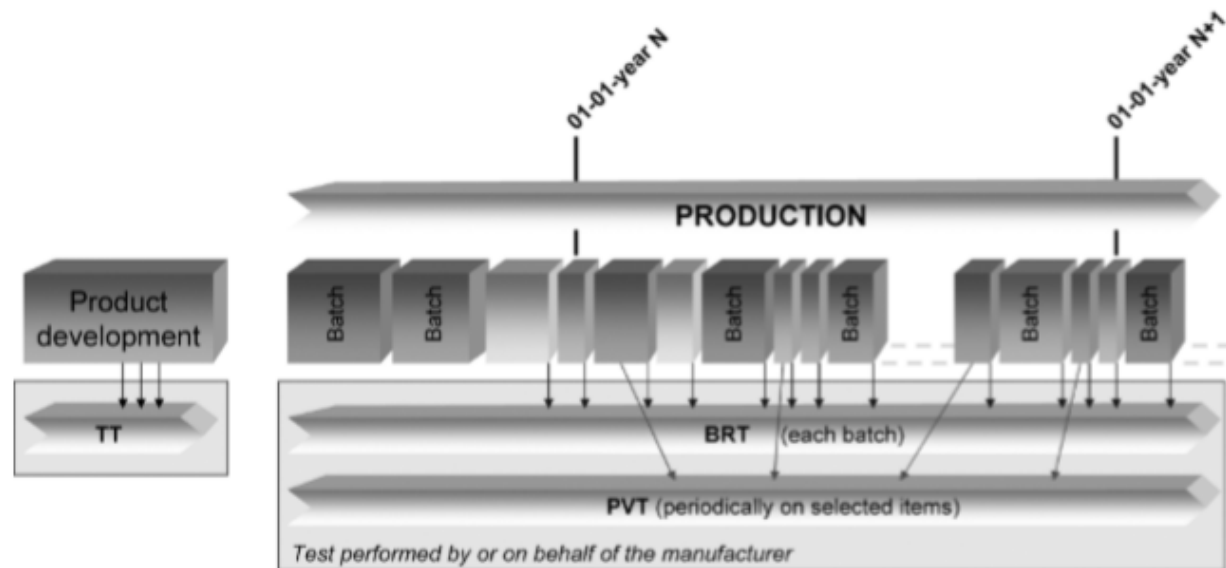

Figure 1 — Typical scheme for the assessment of conformity by a manufacturer
Figure 1 and Figure 2 are intended to provide general information on the concept of testing and organization of those tests used for the purpose of the assessment of conformity. For each type of test, i.e. type testing (TT), batch release test (BRT), process verification test (PVT), and audit test (AT), this part of EN 12201 details the applicable characteristics to be assessed as well as the frequency and sampling of testing.
A typical scheme for the assessment of conformity of compounds, pipes, fittings, valves, joints or assemblies by manufacturers is given in Figure 1.